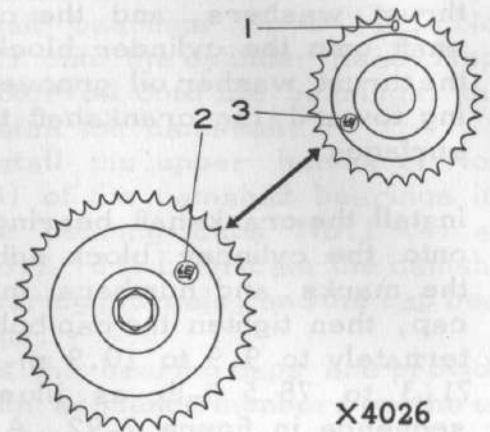

Fig.2-98 Aligning Timing Marks
16. The crankshaft timing gear is provided with an "O" mark (1). When the No.1 piston is positioned at T.D.C. this "O" mark will be at the lower position.
17. Positioning this "O" mark at the lower position, align the timing marks (Toyota) on the crankshaft gear with the pump drive shaft gear as illustrated in figure 2-98.